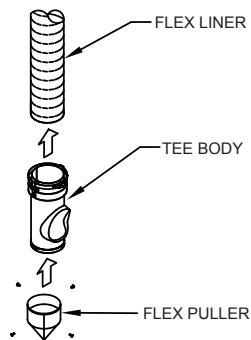

Figure 9
Step 1. If a Tee application is required and the masonry chimney has no offsets, attach the body of the Tee to the Flex by tightening the fast connect band (**Figure 9**). Attach the other end of